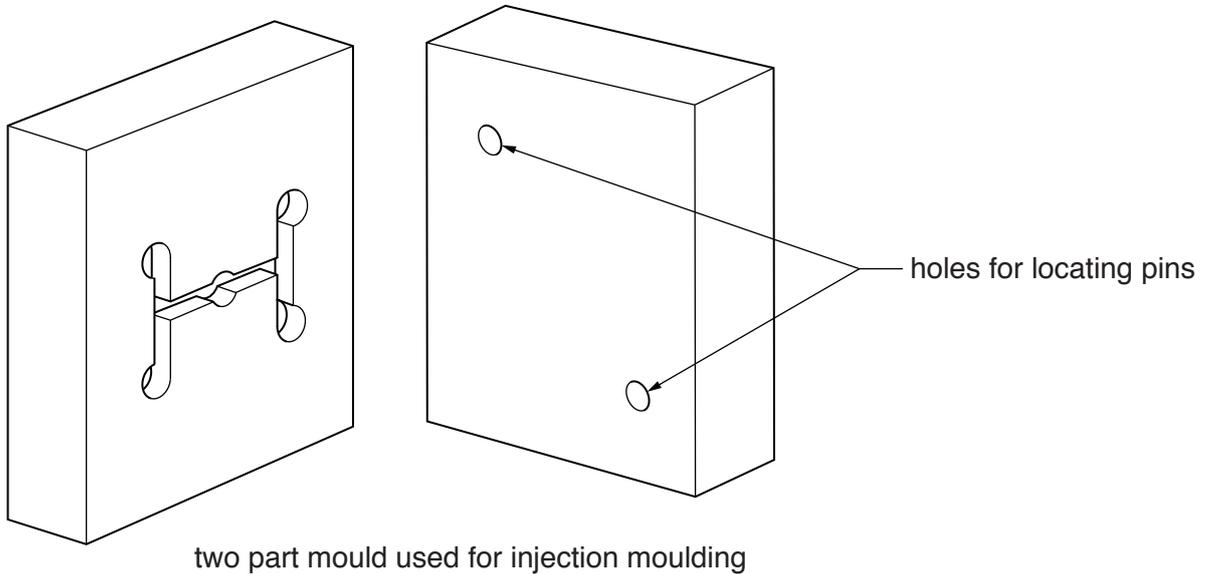

Fig. 4
- 4 Fig. 4 shows a mould which is used in the injection moulding process.